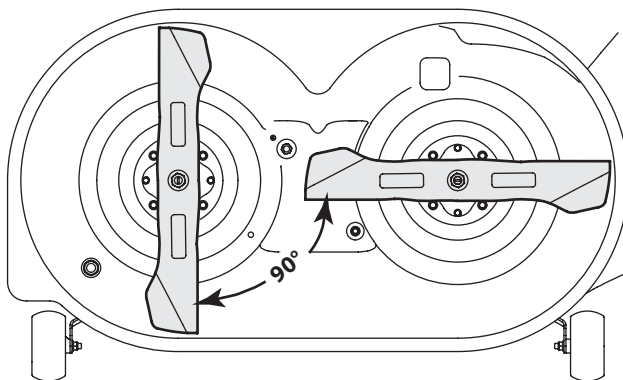

Figure 8.25
7. To install the timing belt turn the blades 90° apart. See Figure 8.25.